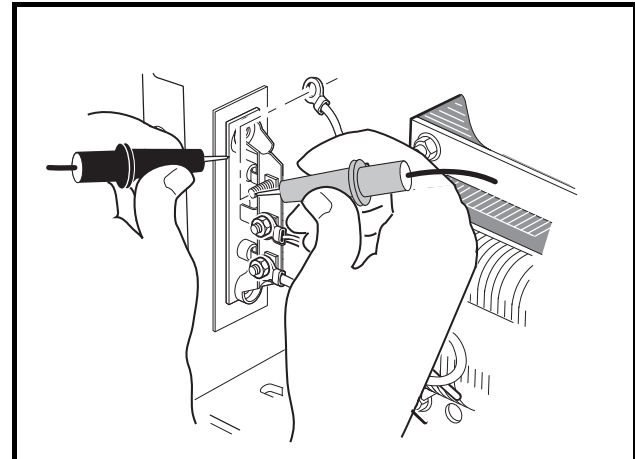

Figure 9-10 Diode Test – Probes Reversed
6. Reverse test probes and check each diode again and note the reading (**Figure 9-10, Page 9-14**). A diode is designed to conduct current in one direction only. If a diode conducts current (shows continuity) in both directions, the entire heatsink with diodes must be replaced. If a diode does not conduct current (does not show continuity) in either direction, the entire heatsink must be replaced.